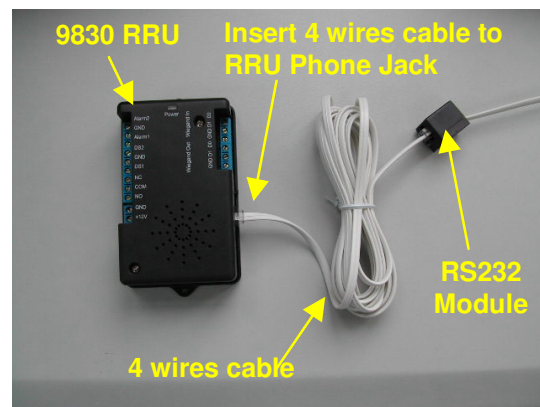

Figure 3 : RRU to RS232 Module Connection
- Connect the RS232 interface module to FS30 (socket marked with RS232) with the 4-wires cable. Please see Figure 3. If connection is success, the Power LED of FS30 will flash with green light.